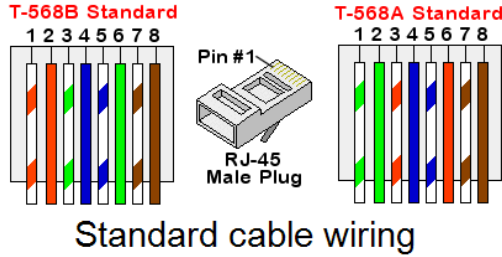

Figure 32: Standard cable wiring
- c. Insert the eight wires into an RJ45 connector, as described *Figure 32*.
- e. Connect the Ethernet connector to the RJ45 port on the communication board as shown in *Figure 32*.